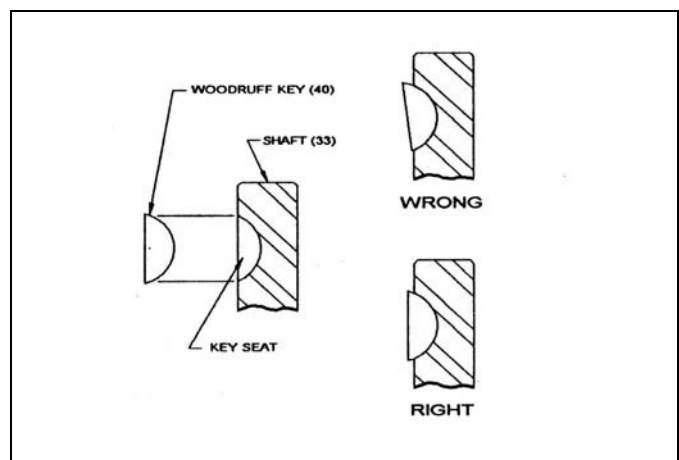

Figure 26. Woodruff Key Installation
Install two woodruff keys (40). Ensure keys are properly installed per Figure 26.